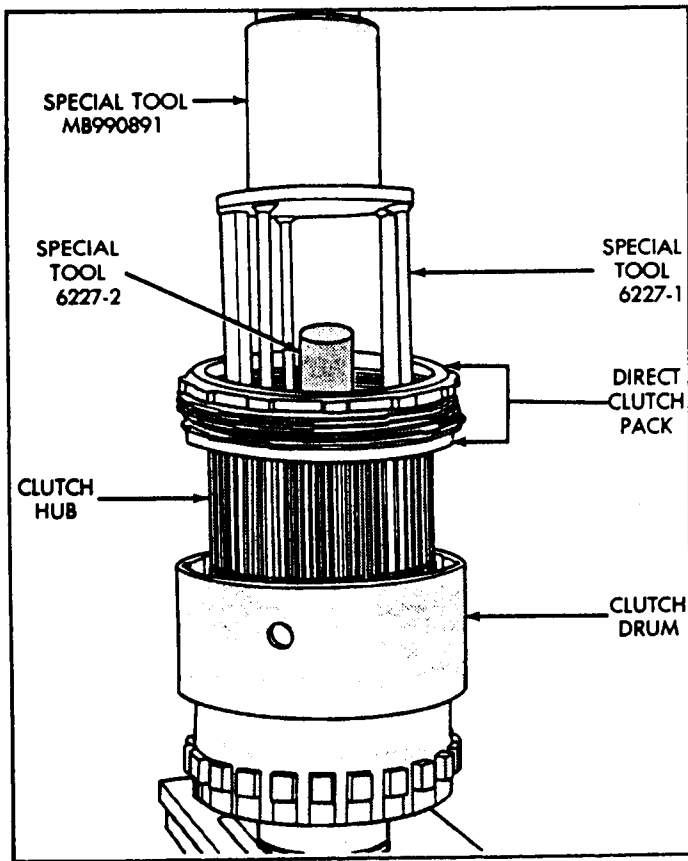

Figure 18
24. Position Compressor Tool C-6227-1 on clutch hub, as shown in Figure 18.
25. Position special tool or similar typ tool on top of Tool C-6227-1, as shown in Figure 18.